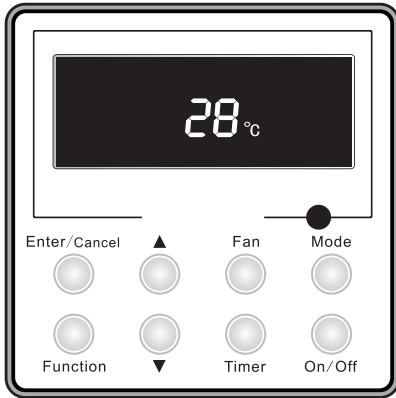

Fig.4 OFF State of the Unit
- ① . The state shown in Fig.4 indicates the OFF state of the unit after energization.